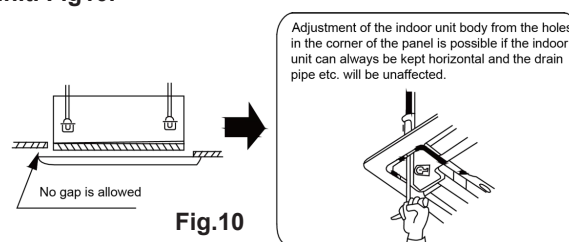

Fig.10
- (8) If gap still exists between ceiling and decoration panel after tightening the screws, readjust the height of the indoor unit. Fig.10.